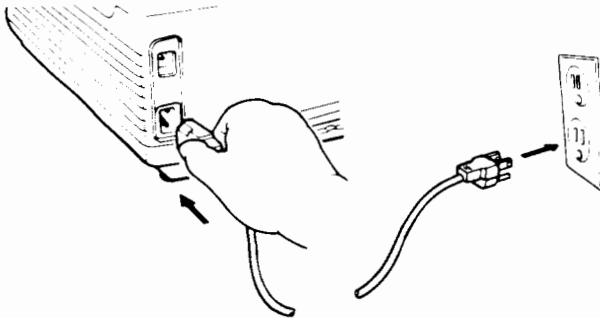

Figure 2-20 Connecting the power cord
- a. Use the power cord furnished with the printer and plug the female end into the connector in the back of the RX7100PS as shown in Figure 2-20.